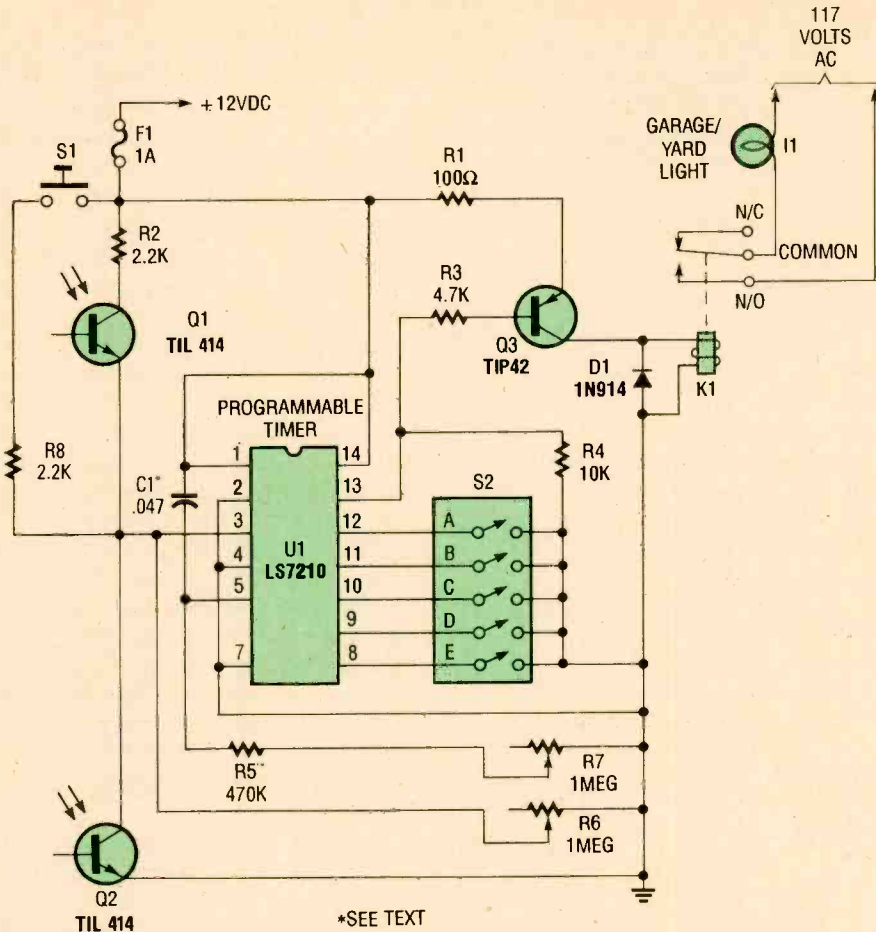

Fig. 1. At the heart of the Programmable Automatic Yard and Garage-Light Controller is the LS7210 programmable digital-delay timer.
atop the dash and the images appear to hover above the car's front bumper. See Fig. 1.
Fig. 1. General Motors' Heads-Up Display (HUD) projects speed and other important information onto the vehicle's windshield. To the driver, the display seems to hover in space above the bumper.
**Circuit Description.** Figure 1 is the schematic diagram of the Programmable Automatic Yard and Garage Light Controller. At the heart of the circuit is the LS7210 programmable digital delay timer—a monolithic, ion-implanted MOS IC that can produce delays from 6 ms (.006 seconds) to infinity. The duration of the generated delay is determined by an RC oscillator and five weighted binary inputs (more on those inputs later).
tion DIP switch ( $S2$  in Fig. 1), allowing any of those inputs to be grounded by a simple flip of the appropriate switch. Thus, with  $U1$ 's internal oscillator set at 17 Hz and a flip of the appropriate switch(s), you can set the delay to from 1 minute to 31 minutes.
Fig. 1. A phased array of four bumper-mounted antennas is used by Blaupunkt to provide directivity in automobile FM installations. Interference is said to be reduced, and it is claimed that the tuner will lock onto and hold a signal longer than would a conventional installation.